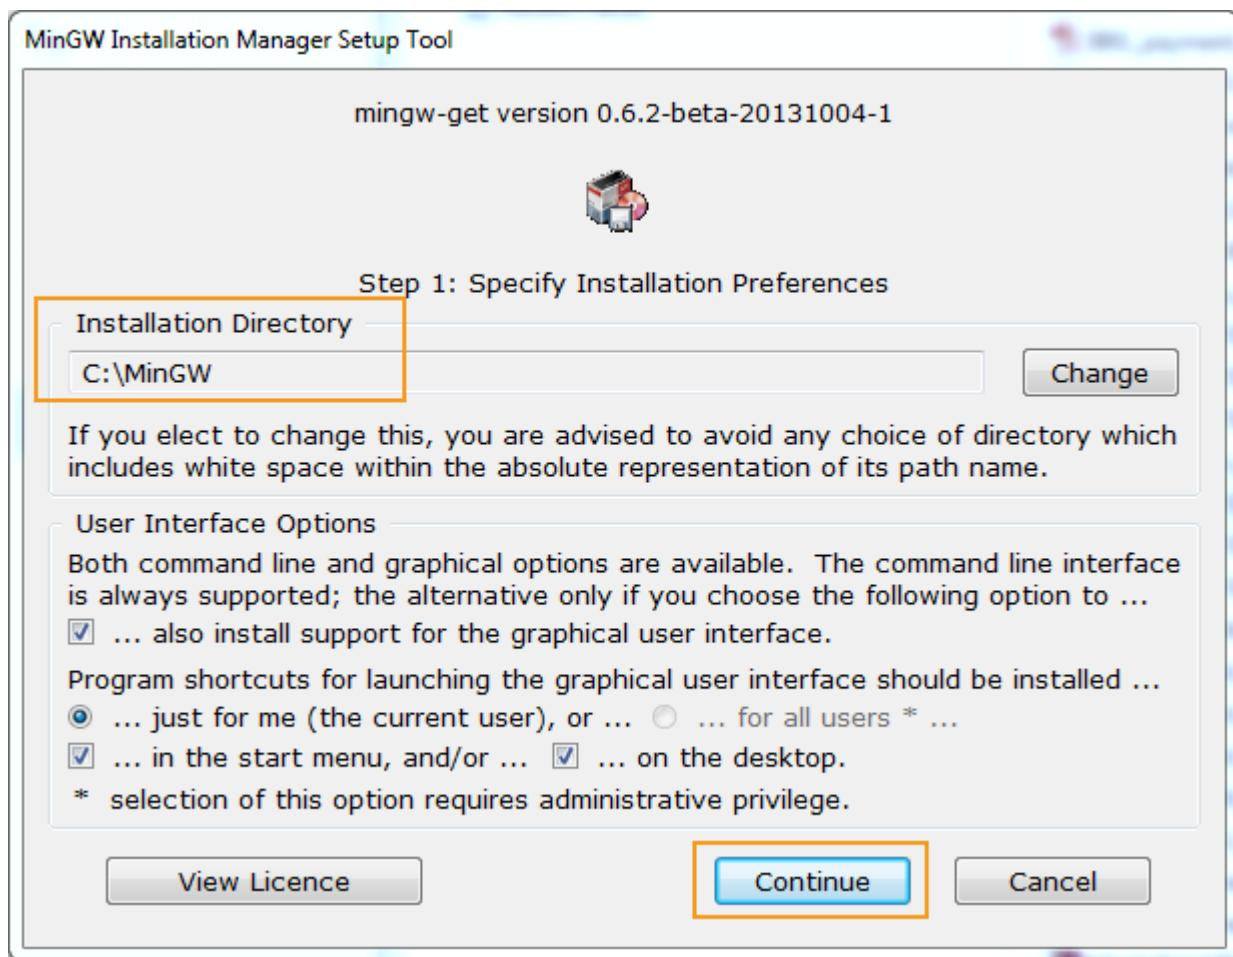

Figure 35. Keep default installation preferences
- 3) Follow the on screen instructions and keep the default settings, then click **Continue** to download the tool to C:\MinGW installation directory (see Figure 35).